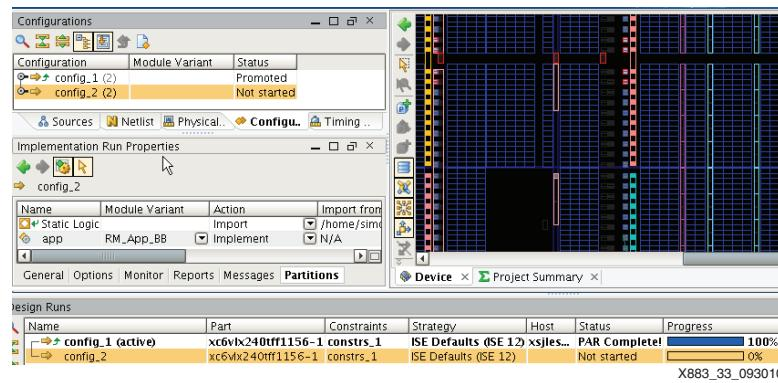

Figure 33: Configurations and Design Runs Frames
- In the Configurations frame, `config_1` has a status of Promoted and the Static Logic for `config_2` is updated to Not Started (see Figure 33).